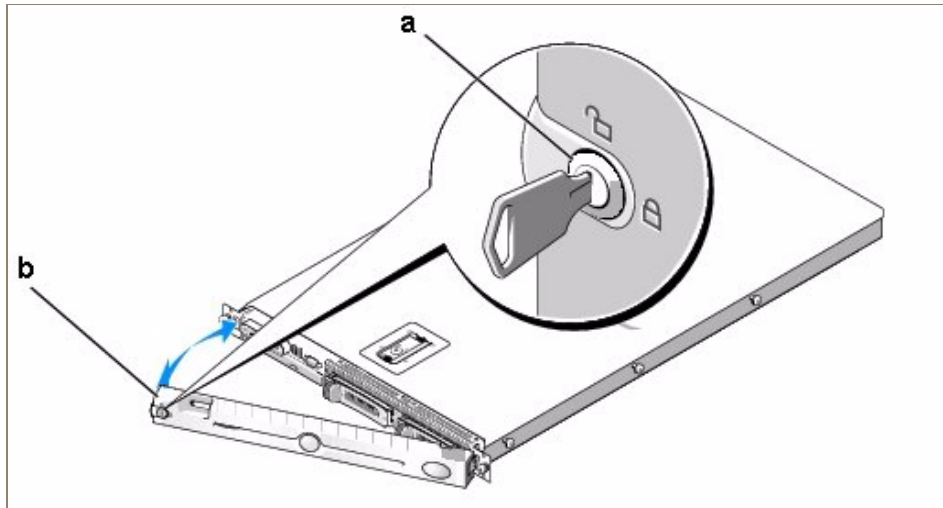

Figure 2-1 Removing the bezel from the appliance
- 1 Remove the bezel (see Figure 2-1).